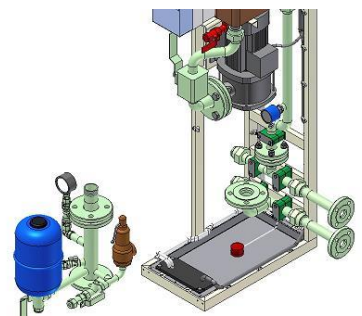

Figure 6.2-2
12. Remove the pipe, HXL040-PS01-5 like shown Figure 6.2-2 using a suitable box wrench. The pressure vessel, safety valve, pressure transmitter and pressure indicator are connected to this pipe. Be careful not to damage these components.